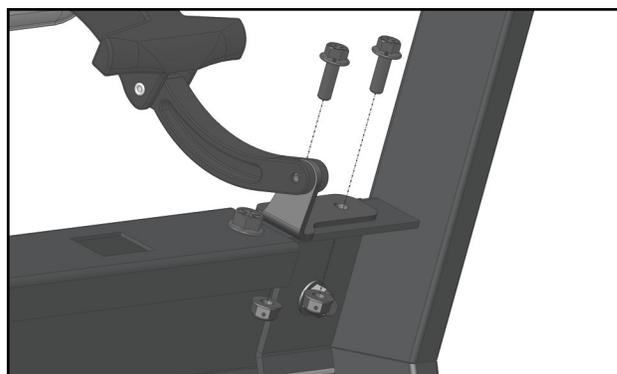

Fig. 7.2 (Windshield Latches)
- 7.2 Secure the windshield latches to the A-pillars. With the latches open, tighten latch hardware. See Figure 7.2